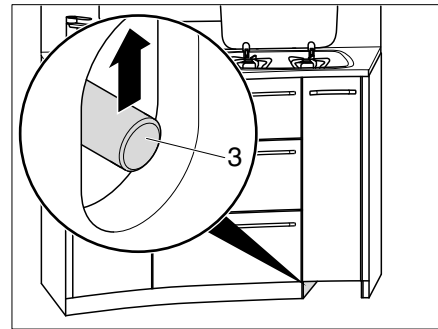

Fig. 127 Unlocking kitchen drawers
- Slide the push rod (Fig. 127,3) upwards.